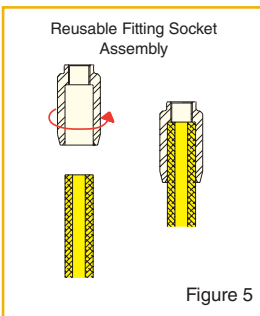

Figure 5
2. Using a wrench, screw the socket onto the hose counterclockwise, ensuring the end of the hose rests snug up against the inside shoulder. Back off the socket a 1/4 turn clockwise (Figure 5).